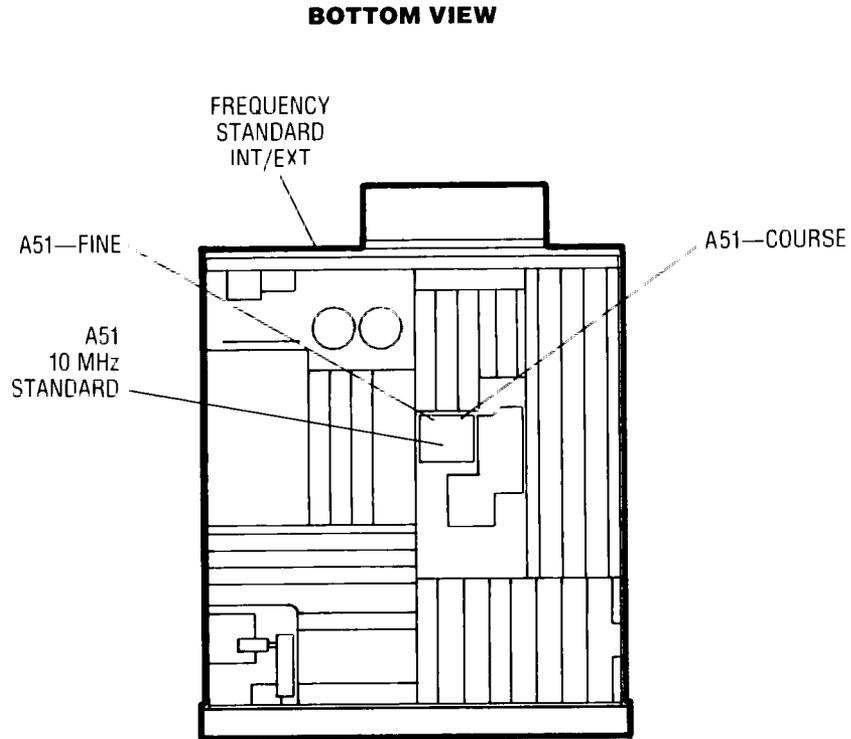

Figure 5-4 10 MHz Standard Adjustments Location
4. Remove dust cap screws used to seal the adjustments from A51 10 MHz Standard. Refer to Figure 5-4 for location of A51 10 MHz Standard.